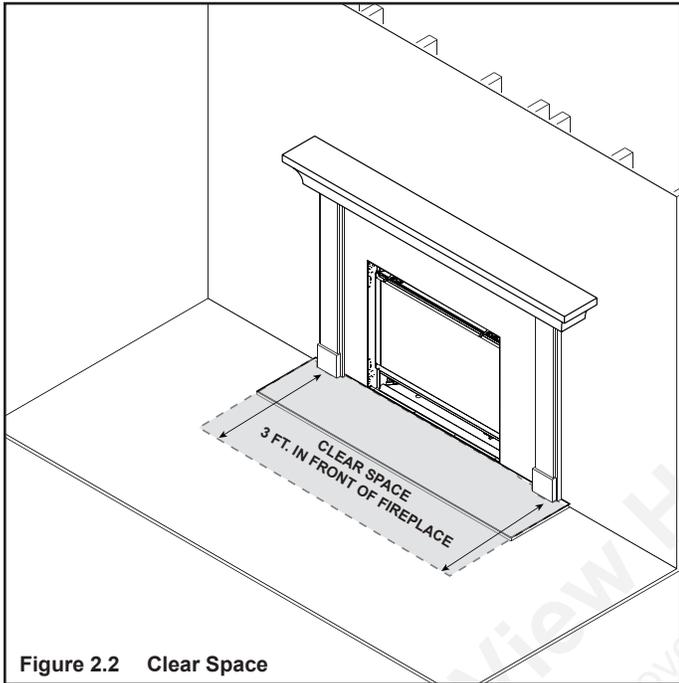

Figure 2.2 Clear Space
**WARNING! DO NOT** place combustible objects in front of the fireplace. High temperatures may start a fire. See Figure 2.2.